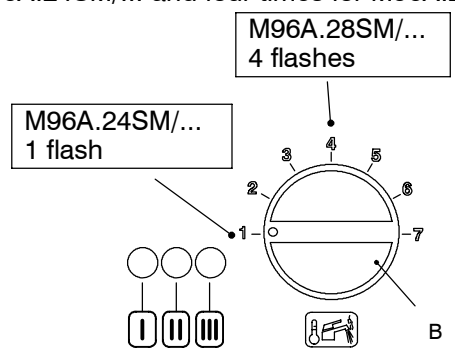

Fig. 9
At this step it is possible to visualize the current setting by keeping the reset button D pressed for more than 5 seconds. The lamps F will flash a number of times corresponding to the setting Fig. 9 (once for M96A.24SM/... and four times for M96A.28SM/...).
- 9 To change the setting turn the knob B on a position corresponding to the boiler models (Fig. 9). By turning the knob B, the lock-out signal lamp E blinks quickly (2 per seconds) indicating that the setting has changed and must be memorised.